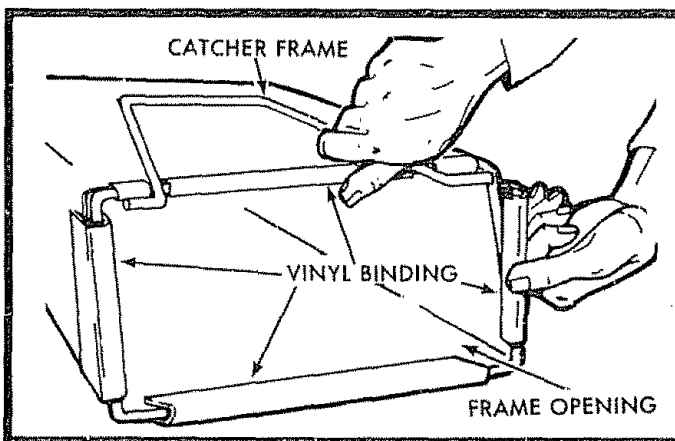

FIG. 2
- Slip vinyl bindings over Frame (See Fig. 2).